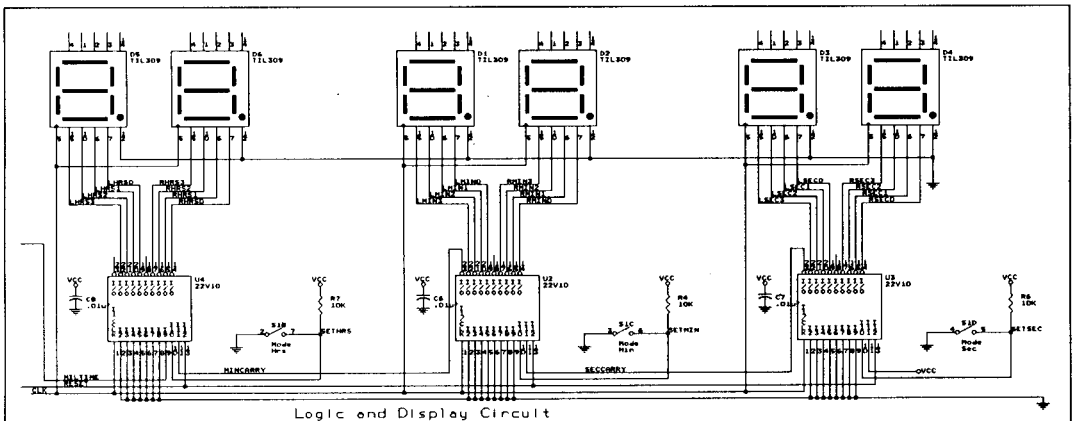
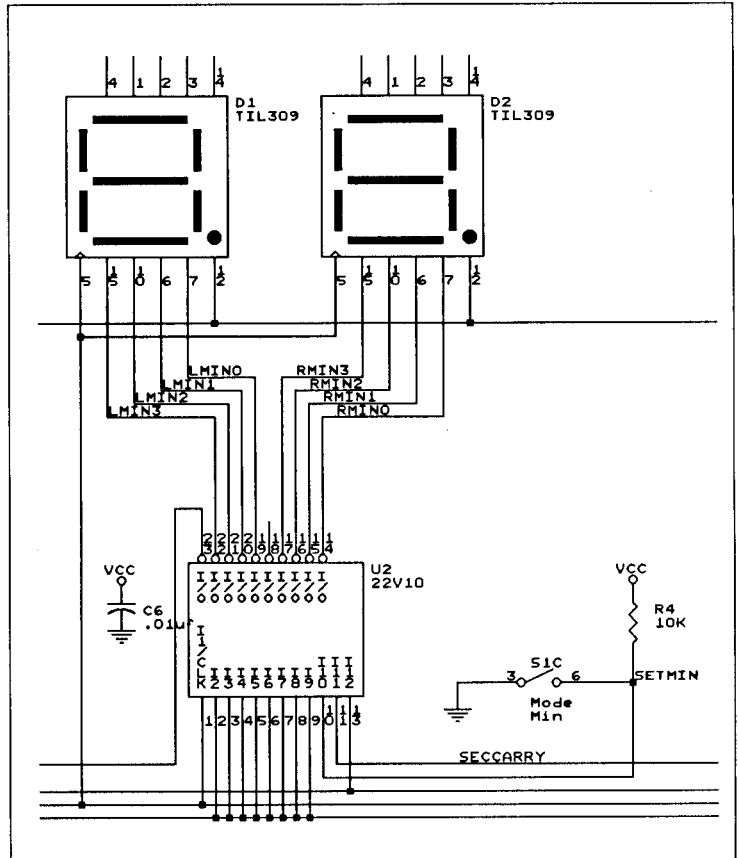

Figure 6-1. The logic and display circuitry.
Figure 6-2. The minutes circuit.
Figure 6-1 shows the portion of the schematic you capture in this chapter.
As you look at the schematic of the logic and display circuitry in figure 6-1, it becomes apparent that three regions are nearly identical—seconds, minutes, and hours. Take advantage of this duplication by creating the schematic for the minutes area (figure 6-2), and copying it to the other areas.
The display and logic circuit shown in figure 6-1 contains so much detail that your immediate task of capturing the minutes area may seem more difficult than it actually is. Figure 6-2 shows only the parts and wires associated with the minutes area of the schematic. By comparing figure 6-2 with figure 6-1, you see the similarities in each of the areas. The steps in the next section describe how to build the minutes circuit.
5. Select **Rotate** to change the part orientation to match the part orientation shown in figure 6-2.
2. Referring to figure 6-2, move the pointer to the bottom of the resistor symbol and select **Place Wire Begin** to start drawing a wire.
1. Referring to figure 6-2, draw the wires between the 22V10 part and the right-hand seven-segment display, as shown. Instead of pressing the <P>, <W>, and keys, just press <F1>, and then proceed as usual.
2. Continue using the macro to draw the wires between the 22V10 part and the left-hand seven-segment display, as shown in figure 6-2.
3. Select **REPEAT** six more times to place the remaining wires of this length as shown in figure 6-2.
1. Select **PLACE Power Place** to put power symbols above the resistor and capacitor symbols, as shown in figure 6-2.
4. Place the remaining wires shown in figure 6-2.
5. Place junctions at the remaining locations shown in figure 6-2.
6. Examine your worksheet and carefully compare it with the schematic in figure 6-2. The exact position of objects is not as important as the presence or absence of these objects.